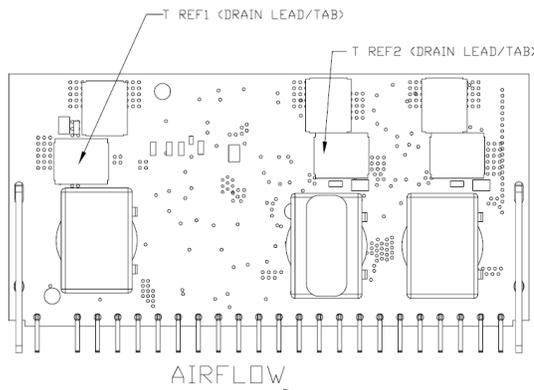

Figure 45. Temperature measurement locations T_{ref1} and T_{ref2} .
The thermal reference points, T_{ref1} and T_{ref2} used in the specifications are shown in Figure 45. For reliable operation this temperatures should not exceed 120°C.